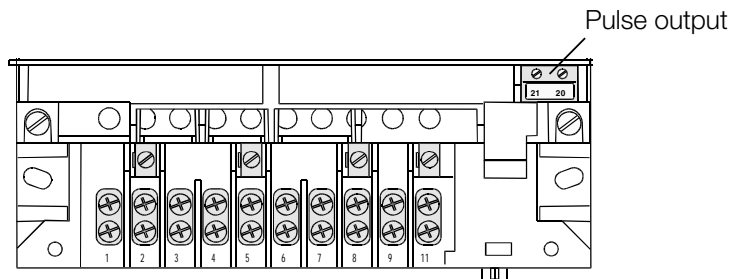

Figure 8. Pulse output relay location
- 5 The pulse output can be connected as a relay, that is, the polarity does not matter. (See Figure 8 for relay location.) Note that the maximum ratings for this pulse output relay are limited to 120 VAC_{RMS} or 200 VDC and 100mA.